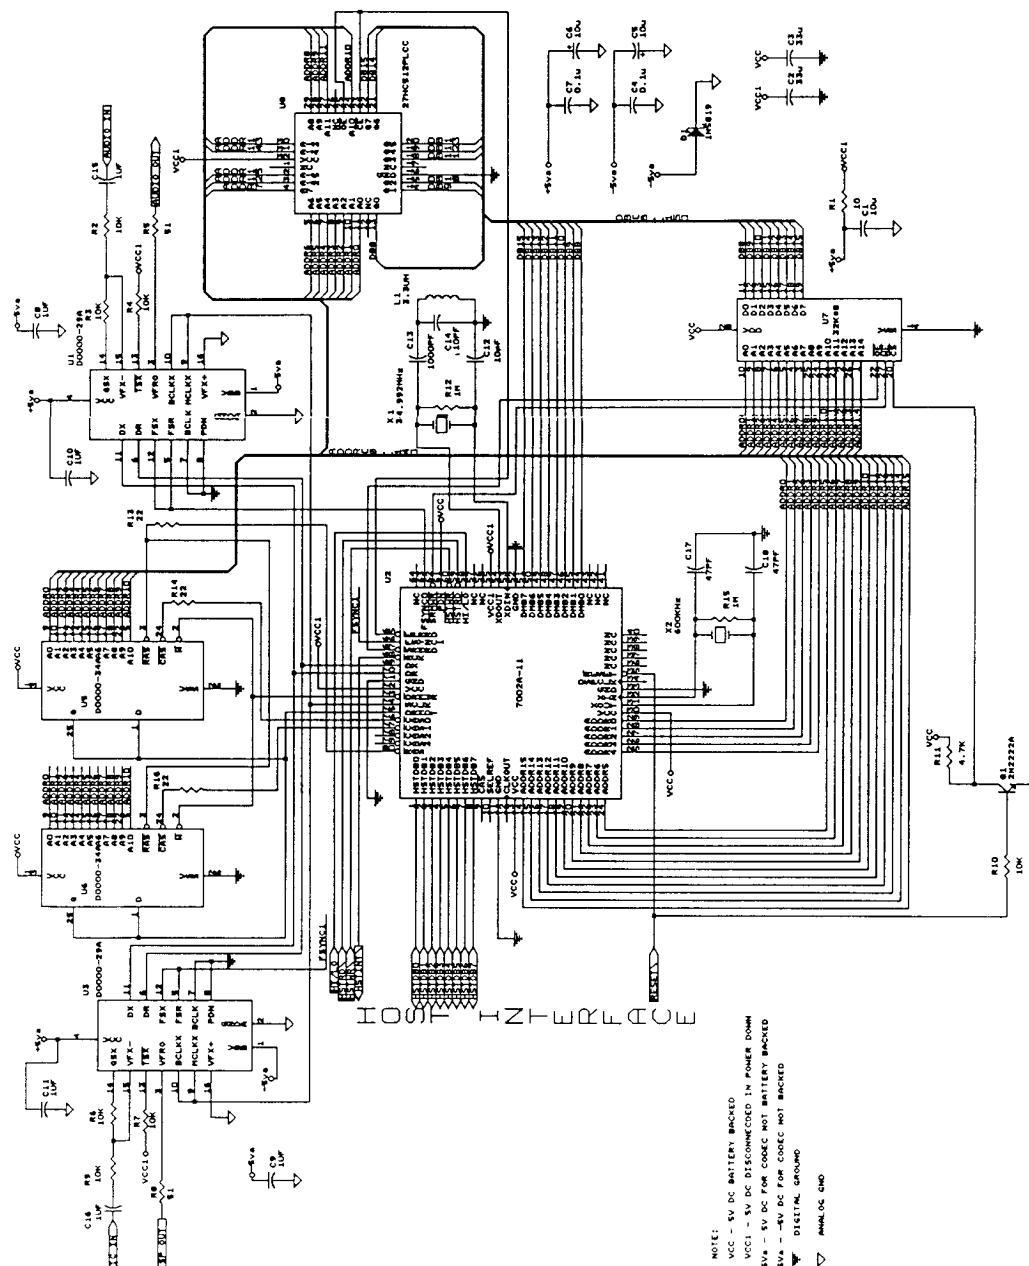

Figure 15. Chipset Interconnection Diagram with Two Oscillators
2. Dual, high and low frequency crystal oscillators to support low power consumption during power down mode. A 34.992 MHz crystal is connected to XDIN and XDOUT (pins 53-54) and a 600 KHz resonator is connected to XOUT and XIN (pins 31-32). The SELREF pin (pin 10) should be connected to GND. See Figure 15.